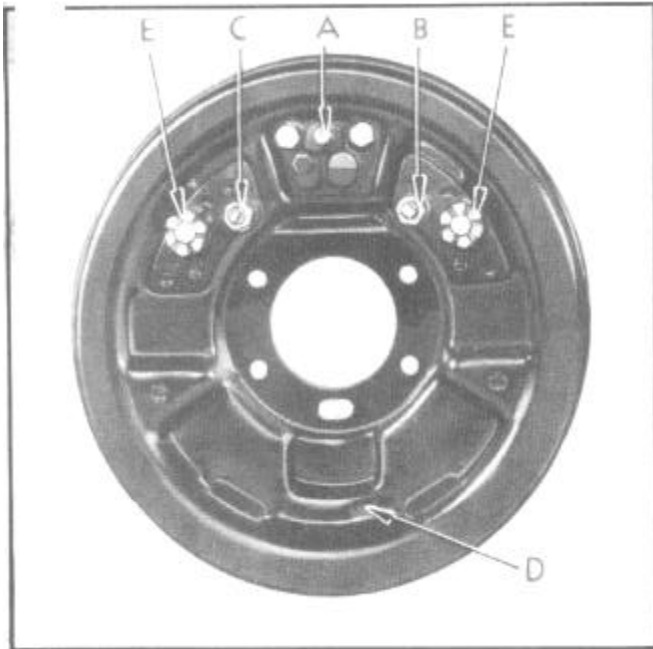

Figure 10--Brake Backing Plate -
6. Loosen eccentric lock nut (B), Figure 10.
9. Repeat the above adjustments 5-6-7-8 on the secondary or rear shoe by means of adjusting eccentric (C).
10. Expand the lower ends of the shoes against the drum by turning the adjusting screw with brake adjusting tool J 1028 inserted through the slotted hole (D). Move outer end of the tool toward the center of the backing plate until the drum can just be turned by hand.
14. Back off the adjusting screw through the slot (D), Figure 10, by moving the outer end of the tool away from the center of the backing plate until the drum is just free of the lining drag.
3. Remove links (E), Figure 10, from backing plates.